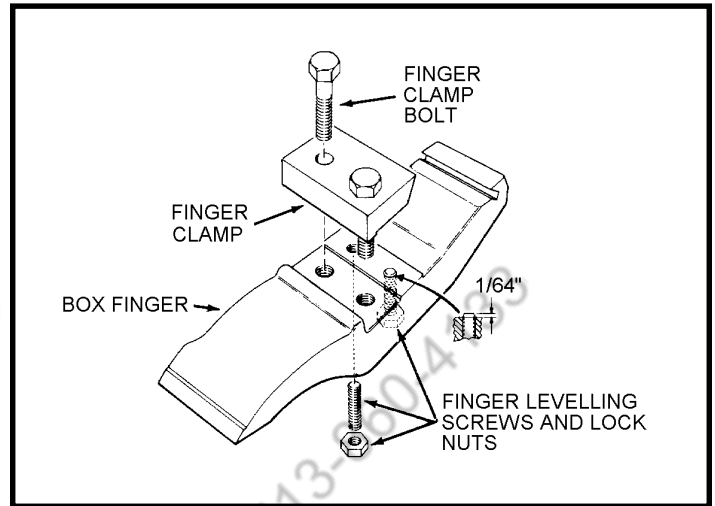

Figure 16. Box and Pan Finger
4. Loosen Finger Clamp Bolts (figure 16) and hook finger into dove tail of Upper Beam.
1. Choose a 4" to 6" width finger and set the Finger Leveling screws (figure 16) until end of each screw protrudes $1/64$ " above mounting surface of the finger. Lock the screws in this position by securely tightening Finger Leveling Lock Nuts.